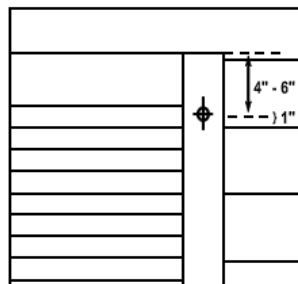

Fig. 2
- 2 - Clearly mark screw hole location with a pencil. Non-corrosive screws should be marked 4" to 6" from the top and bottom of shutter, and within 1" above where the siding makes contact with the shutter. This allows for maximum screw penetration. See figure 2.